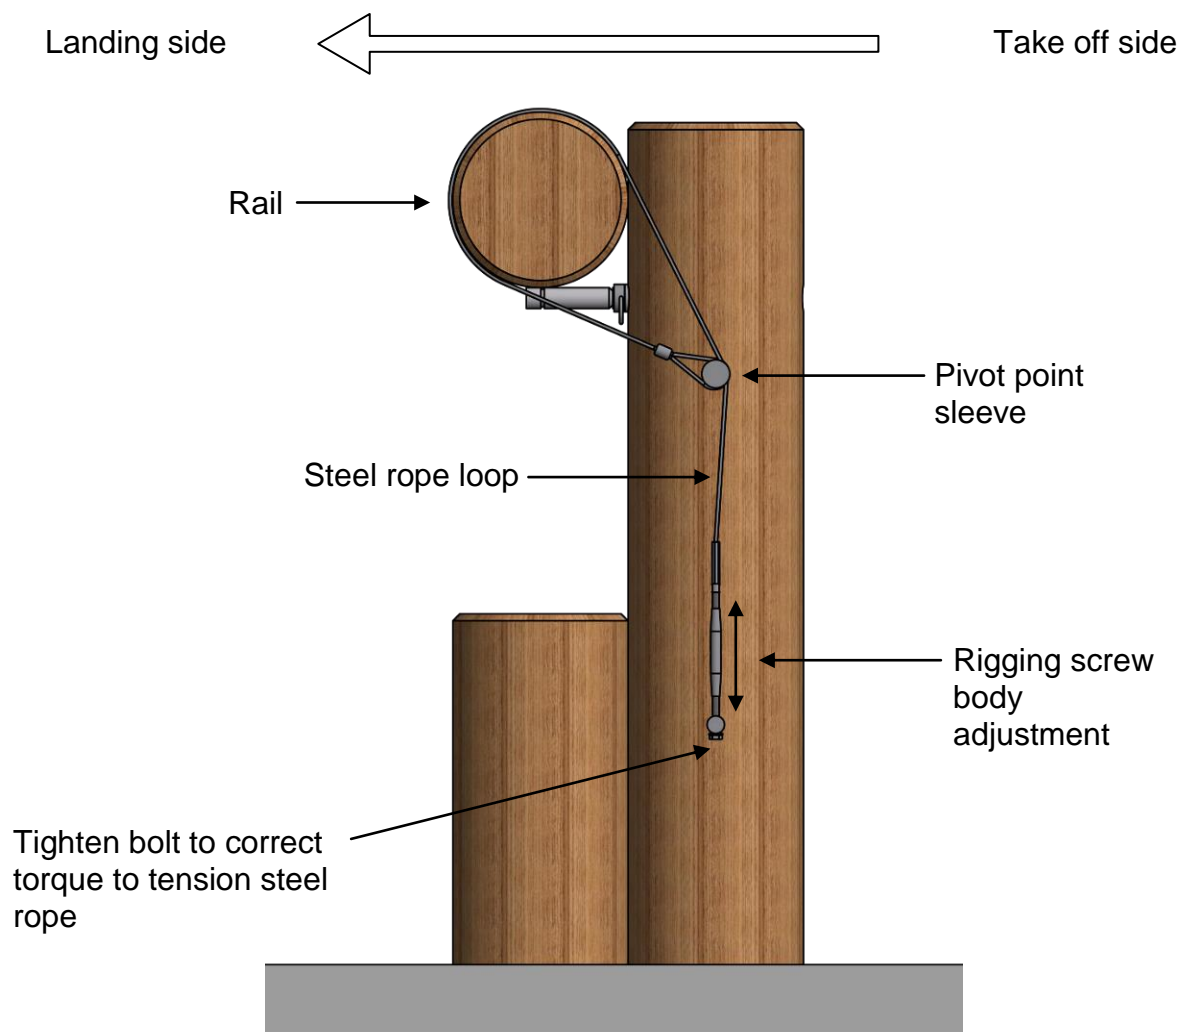

Figure 6 – Reverse pinning (only top rail shown)
3. Insert the **pivot dowel** with end flange into hole leaving approximately 15mm protruding from the post and hook the loop (soft loop) over flange as shown in Figure 6.